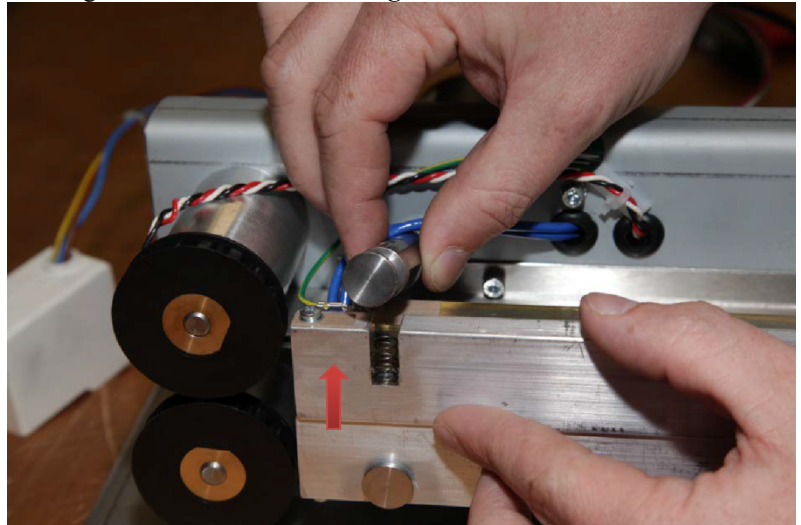

Figure 30
30. Screw in the element support again. Be sure to put the timing belts on so the aluminum guidance bars are fixated. **Fig. 30**